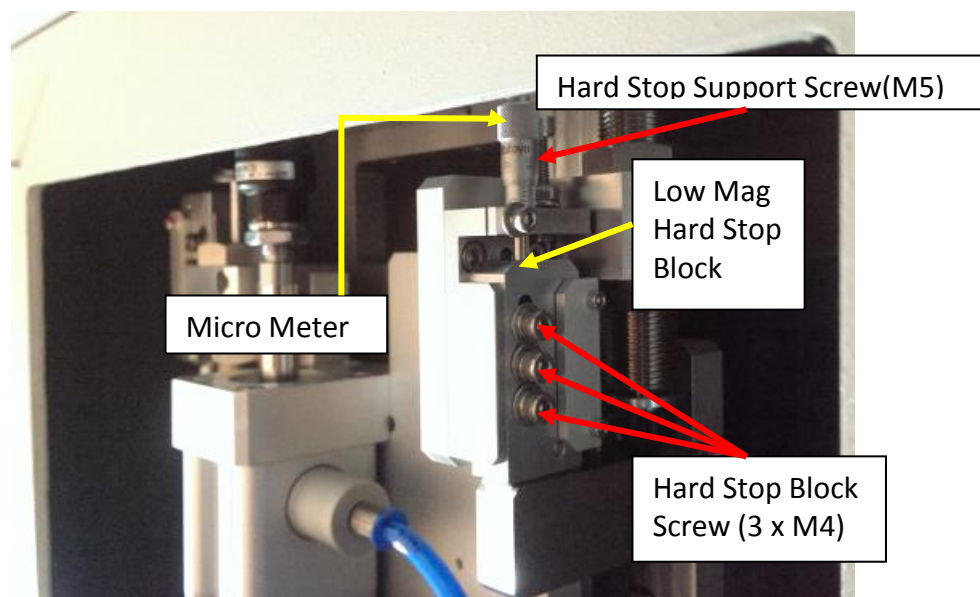

Figure 9 (New Rev)
12. Log Mag Hard Stop and screws as Figure 9.